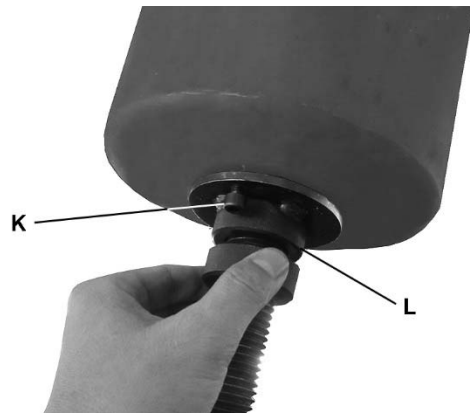

Figure 5
Adjust counterweight by backing out screw (K, Figure 5) and rotating upper and lower collars (L) as needed. When counterweight is at desired position, turn screw (K) until it re-engages counterweight.